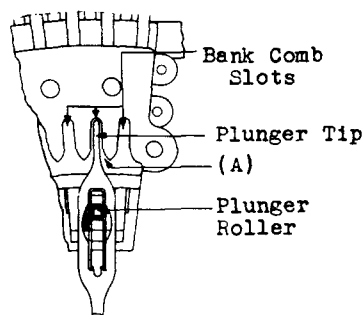

Fig. 7 — Relation of Plunger Tip to Bank Comb Slot
2.15 Relation of Plunger Tip to Bank Comb Slot: Fig. 7(A)